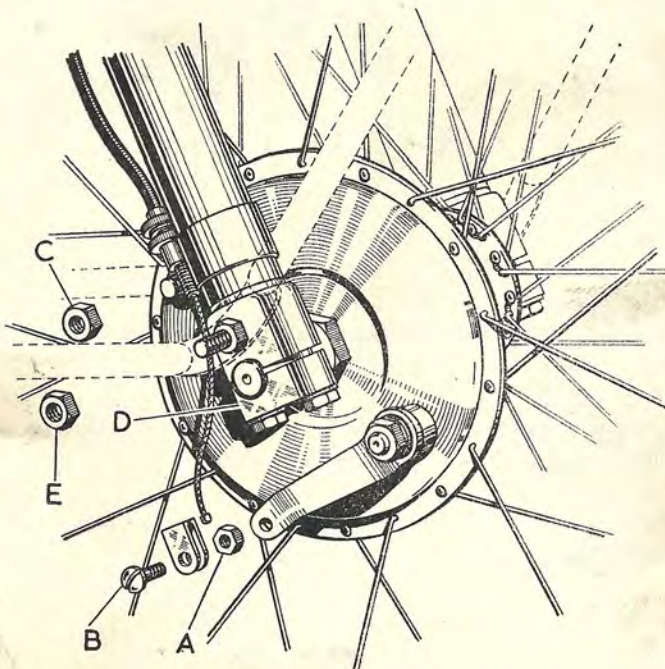

Fig. D29. Front Wheel Removal.
Disconnect the brake cable by removing the nut (A) and the screw (B) Fig. D29 at the brake drum end. Slacken the torque arm nut (C) on the cover plate and remove the end caps (D) by unscrewing the four bolts (two in each cap) and as the last bolt is removed support the wheel to avoid damage to the screw threads on the bolt or the screwed sockets. The wheel will now be free.